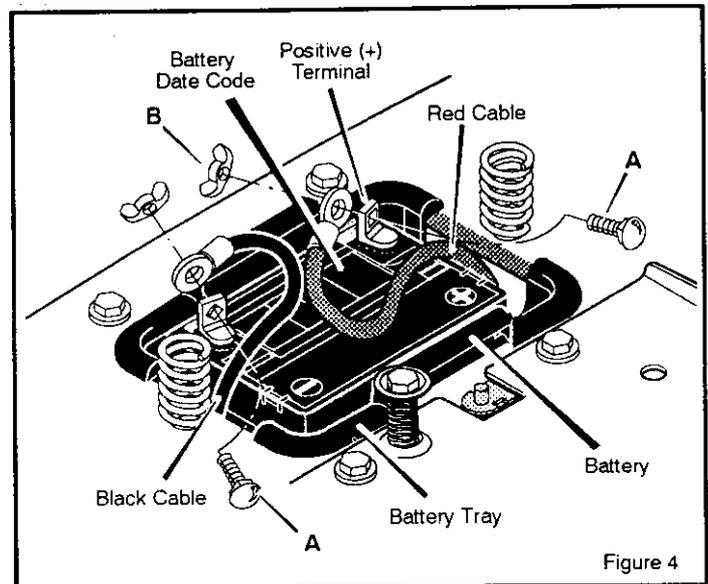

Figure 4
1. Check the **battery date** on top of the **battery** (Figure 4).
2. Fasten the **red cable** to the **positive (+) terminal** with the fasteners as shown (Figure 4).